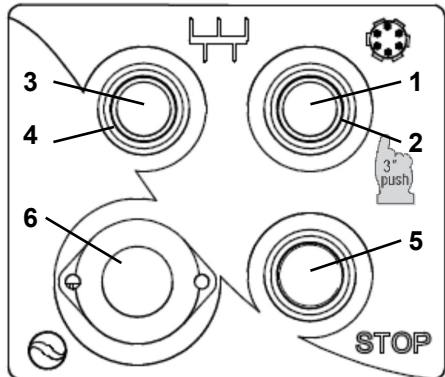
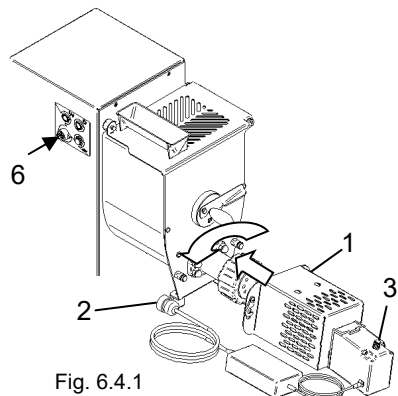

Fig. 3.1.1
Fig. 6.4.1
Connect the plug to the mains and press the start button (3 Fig. 3.1.1). The machine gets enable din extruding mode; ensure the spiral direction of rotation is counter-clockwise.
5.3 - Checking the effectiveness of the emergency button (5 fig. 3.1.1)
When machine is connected to the mains and tools are in movement, press the shut down button (5 Fig. 3.1.1). The machine must shut down.
5.4 - Machine start up (1 or 3 fig. 3.1.1)
After having properly connected the machine to the mains, push the mixing button (1 Fig. 3.1.1) or push the extruding button(3 Fig. 3.1.1), to have the machine started up.
5.5 - Machine shut down (fig. 3.1.1)
To shut down the machine, push the shut down button, "5" Fig. 3.1.1.
3. Start the machine in mixer mode by means of the button "1" (Figure 3.1.1)
1. Start the machine in extruder mode through button 1 (Fig. 3.1.1) and draw roughly 50 g of product to clean the extrusion channel
3. Start the machine in extruder mode through button 1 (Fig. 3.1.1)
1. Attach the pasta cutter accessory "1" (Fig. 6.4.1) to the front pins of the pasta machine.
2. Insert connector "2" (Fig. 6.4.1) into connector "6" (Fig. 3.1.1).
4. Intervene on potentiometer "3" (Fig. 6.4.1) to adjust the speed of the pasta cutter to cut the pasta to the desired length.